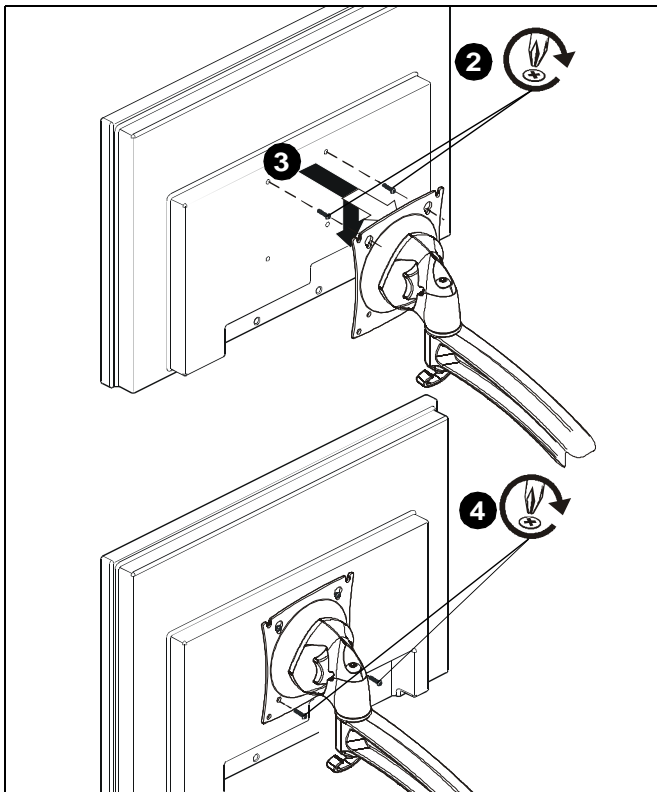

Figure 4
1. Ensure faceplate is able to swivel and tilt easily, yet still be tight enough to hold display in desired position. Adjust as required before proceeding. See "ADJUSTMENT" for detail. (See Figure 4)
2. Using Phillips screwdriver, carefully install two M4x12mm screws (B) into the *upper* mounting holes on the display. Thread screws completely into display, then back out 3 complete turns. (See Figure 4)
3. Pick up and align display so that screws (B) (installed on the back of the display in the previous step) fit into the mounting holes on the faceplate. Rotate the bracket as required. Lower the display firmly into place. (See Figure 4)
4. Using Phillips screwdriver, install two remaining M4x14mm Phillips screws (B) through the *lower* mounting holes in faceplate into the display. (See Figure 4)
5. Tighten all four screws (B). Do not over-tighten!